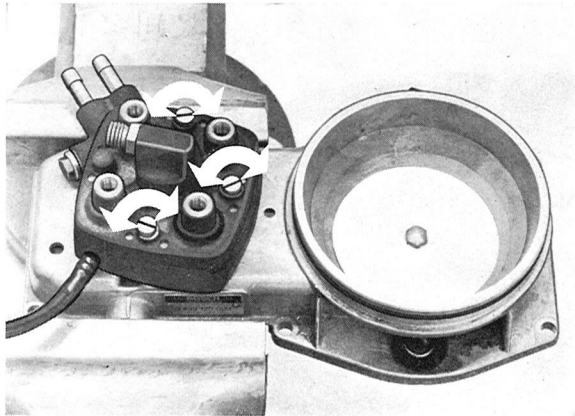

Fig. 2-181. Fuel distributor removal
2. Remove the three screws, Fig. 2-181, and care-